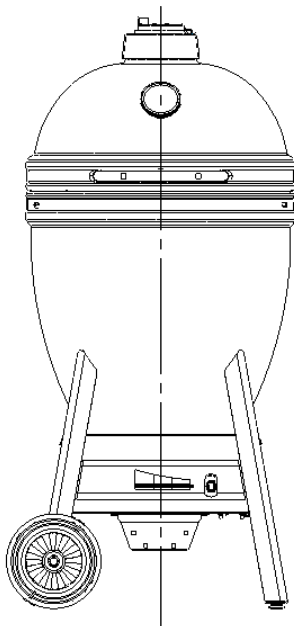

FIGURE 8: CENTERED UNIT
Step 7: Using the red handles lift the assembled shell onto the base assembly (**This is a two person job**). Make sure the handle and thermometer are centered with the front of the base, see Figure 8.